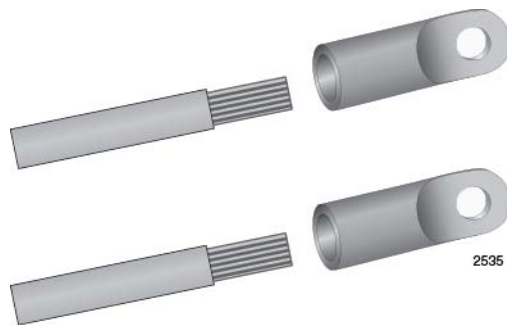

Figure 124. Attaching the Power Wires to the Straight Terminal Lugs
2. Insert the power wires into the terminals included with the power supply and use a crimping tool to secure the wires to the terminals. See Figure 124.